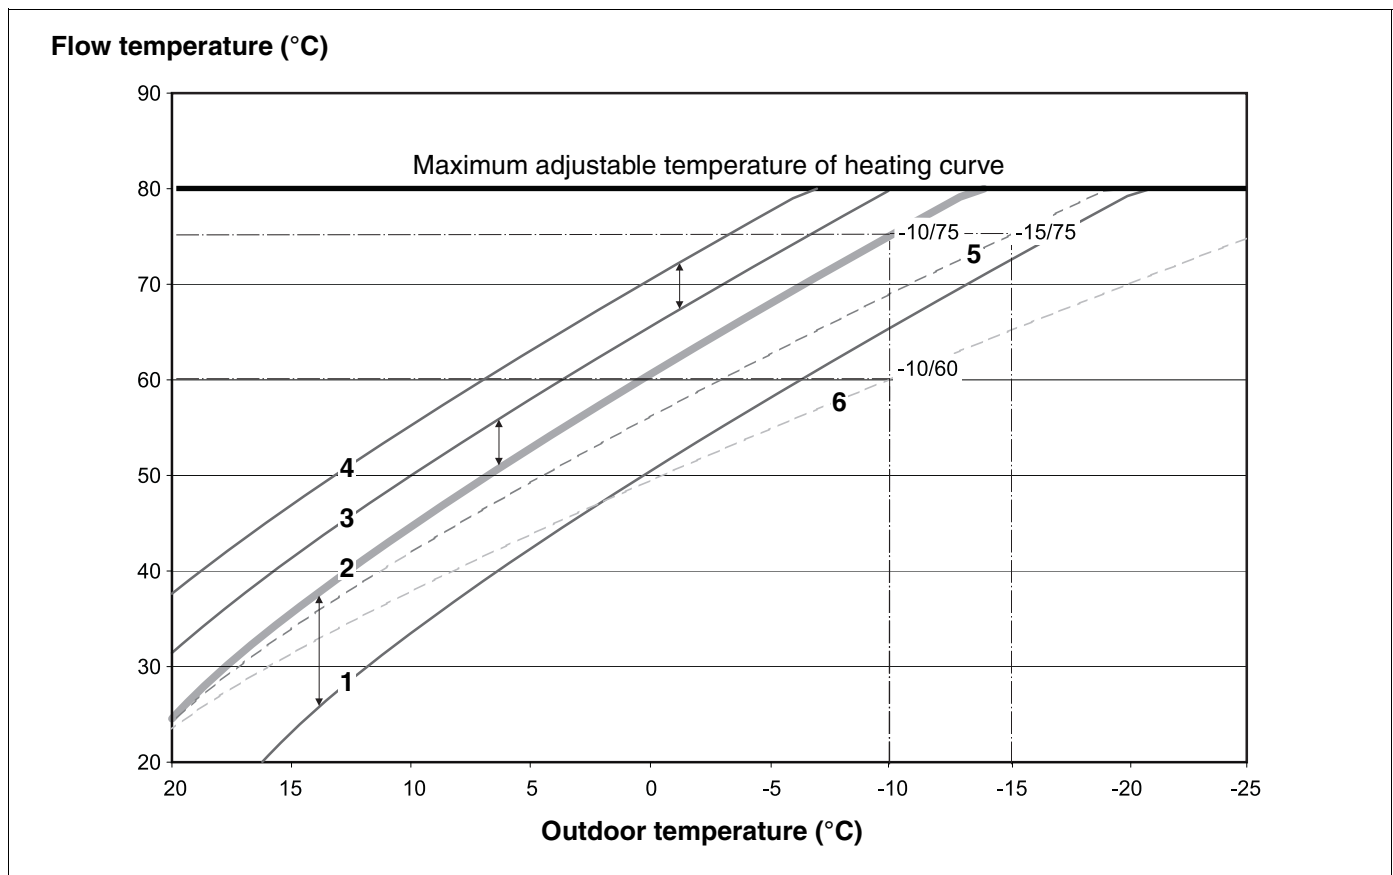

Fig. 21 Heating curve for a "radiator" heating system
Figure 21 shows how heating curve (1) for design point $-10\text{ }^{\circ}\text{C}/75\text{ }^{\circ}\text{C}$ moves in parallel (2, 3 and 4) through various set room temperatures. Heating curves (5 and 6) show the changed gradient for other design points.